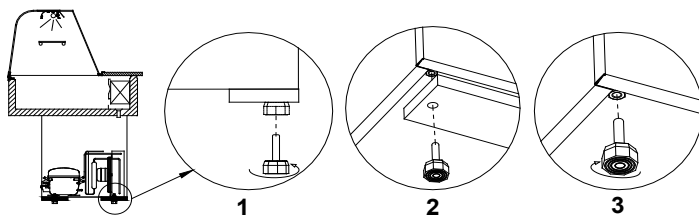

Fig.5 Removing the wooden platform
- Unpack the device and remove the wooden platform from the basis (does not concern moving devices as well as N, N2 and Z models) Fig.5 (p.15).